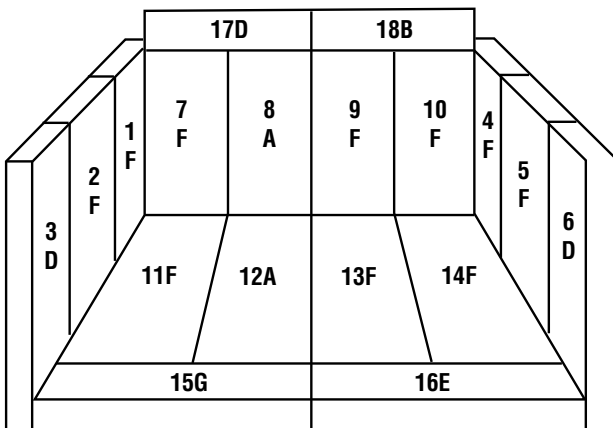

Figure 7
1. Install bricks #1-18 in the numbered sequence shown in **Figure 7** on **Page 12**.